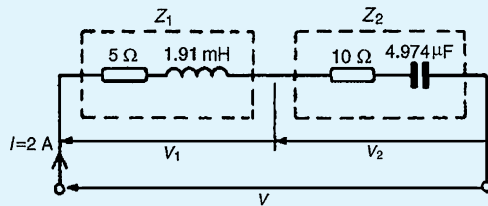

Figure 15.20
4. For the circuit shown in Fig. 15.20 determine the voltages V_1 and V_2 if the supply frequency is 1 kHz. Draw the phasor diagram and hence determine the supply voltage V and the circuit phase angle.